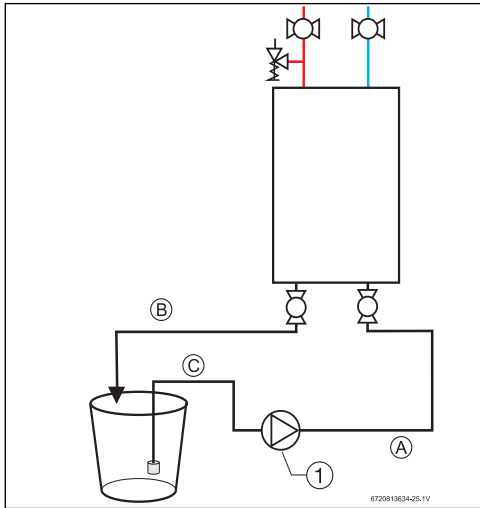

Fig. 54
- ▶ Connect a line (A) from the outlet of the circulating pump (installer supplied) to the inlet water fitting on the water heater (see fig. 54).
- ▶ Using another line (B), connect the water outlet fitting on the water heater. Route the other end of this line into a descaling reservoir.
- ▶ Using a 3rd line (C) from the descaling reservoir, connect to the inlet side of circulating pump. Install a filter on the end of the line in the descaling reservoir.